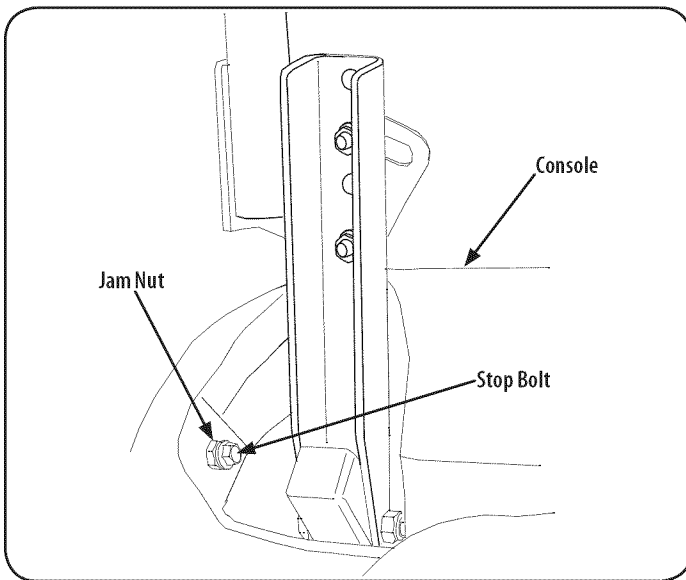

Figure 45
8. Locate the applicable stop bolt on the left or right console. See Figure 45.